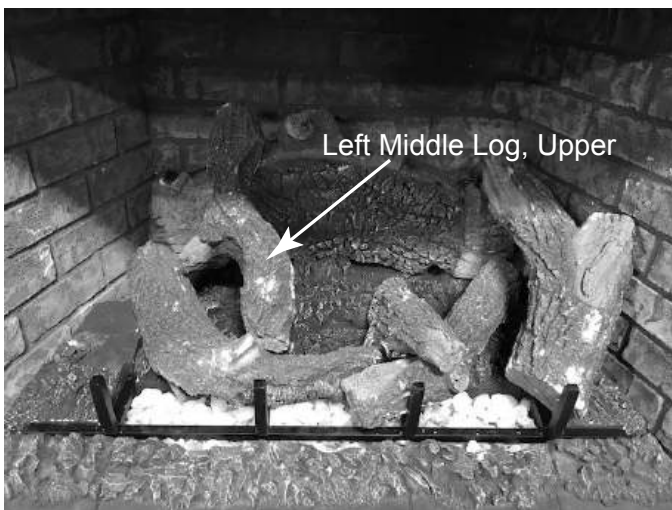

Figure 11.19
- Locate the left middle log, upper by placing the two notches on bottom of log on to the locating points on top of rear log and burner top. See Figure 11.19.